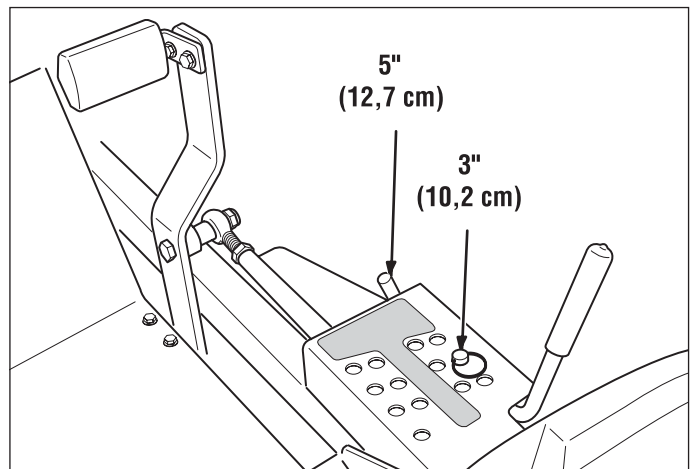

Figure 20. Deck Lift Pedal & Pin Position
5. Lock the deck lift pedal in the 5" (12,7cm) position. Remove the cutting height adjustment pin (Figure 20) and lower the mower deck.